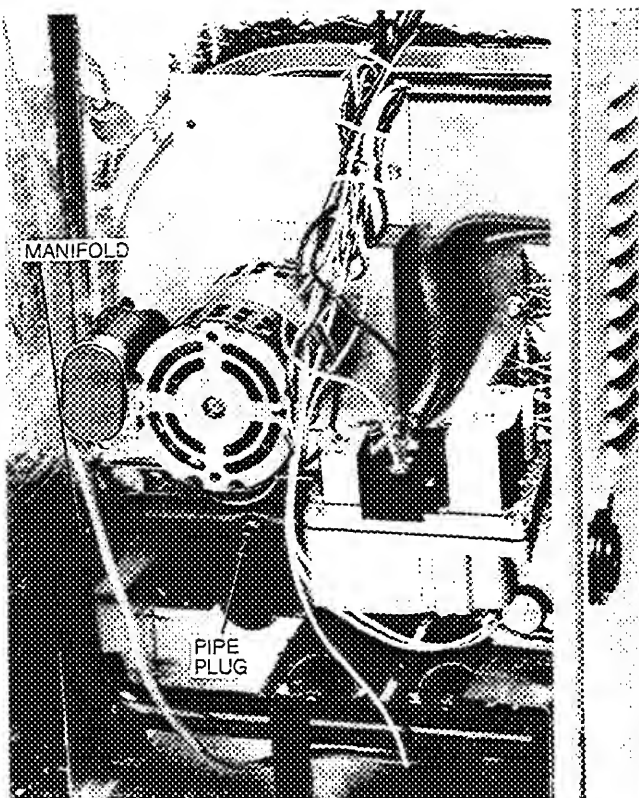

Fig. 23 — Burner Assembly
2. Remove pipe plug on manifold (see Fig. 23), then connect manometer at this point. Turn on gas to unit.
2. Remove pipe plug on manifold (see Fig. 23), then connect manometer at this point.